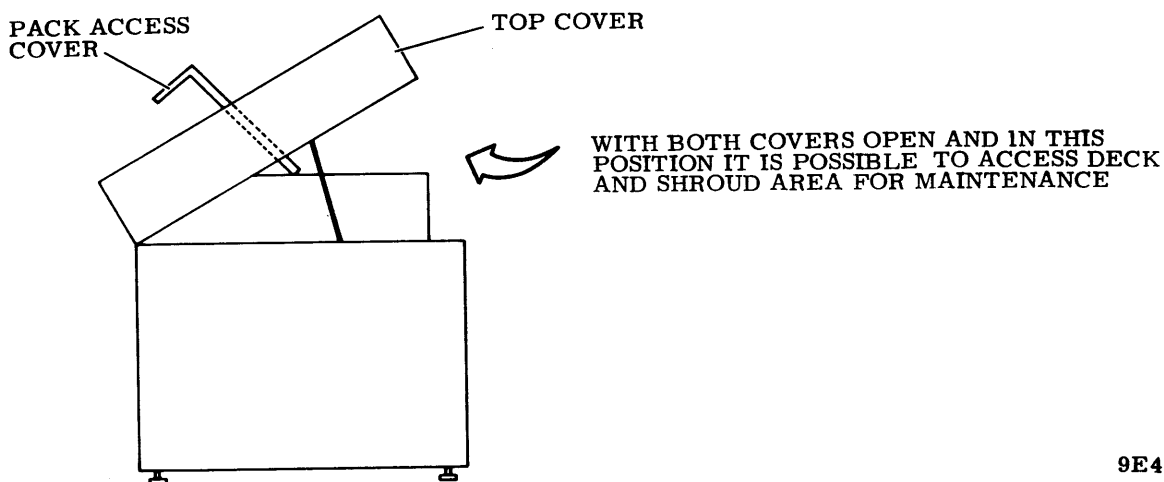

Figure 6-37. Cabinet with Pack Access and Top Cover Open
3. Raise top cover, then open pack access cover as far as possible (refer to figure 6-37).
7. Raise top cover so that covers are as shown in figure 6-37.
11. Raise top cover so that covers are as shown in figure 6-37.
- b. Raise top cover so that covers are as shown in figure 6-37.
19. Raise top cover so that covers are as shown in figure 6-37.